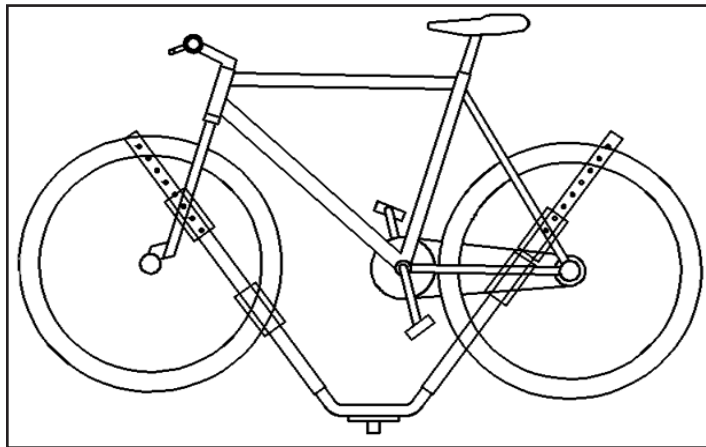

Fig.3
4. Use 1 SwayStop pin to secure at least 1 wheel below the frame where the wheel crosses the wing using the same technique with the stop pin rubber strap (**Fig.3**). A second and optional SwayStop pin is provided to secure both wheels of the bike to the rack if desired.